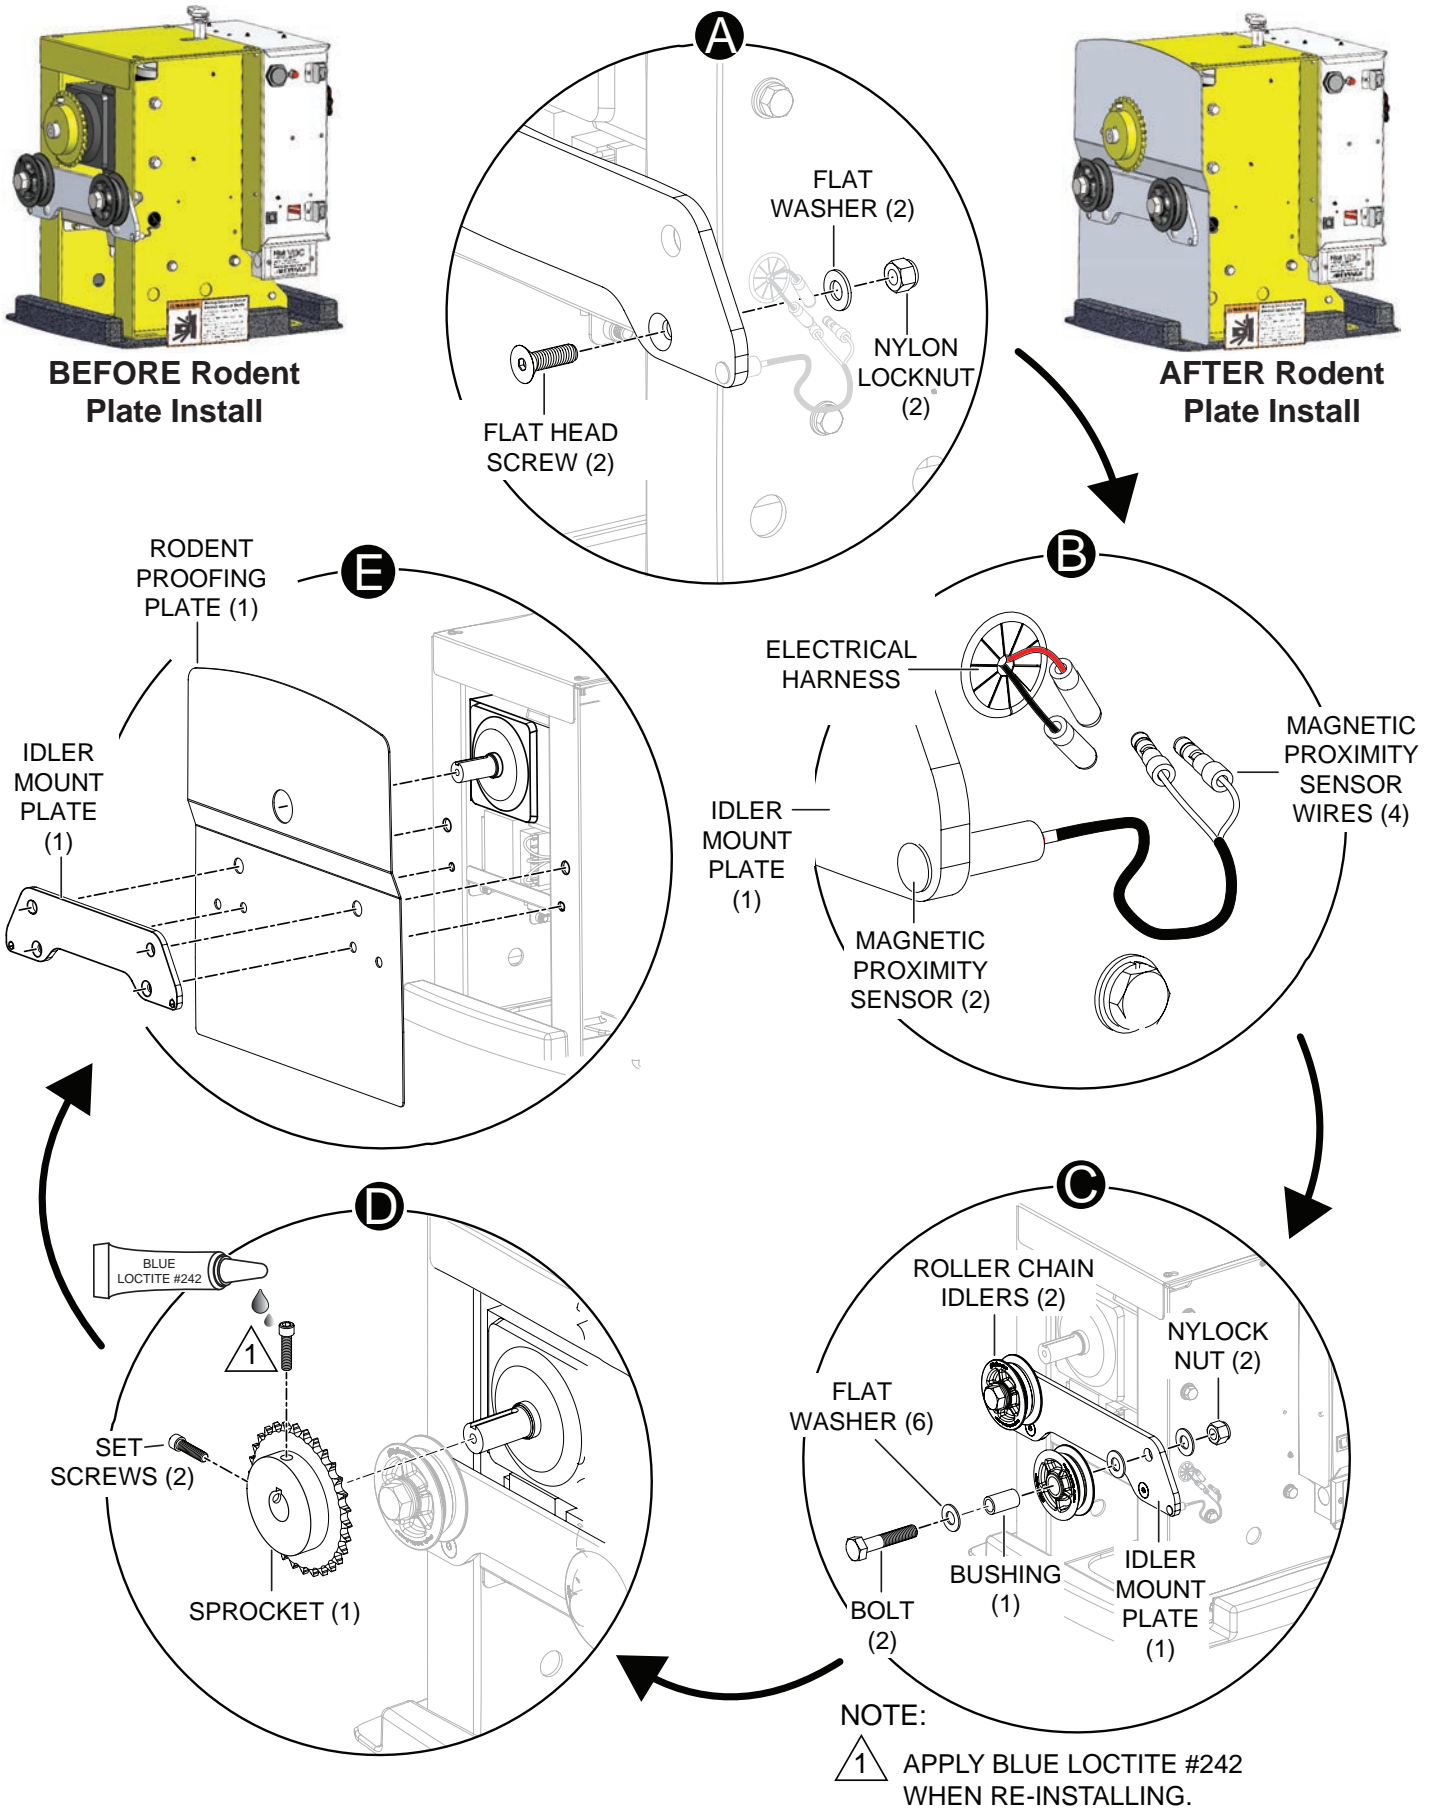

Figure 2. Rodent Block Plate Installation
1. Use a 7/32 inch allen wrench and 9/16 inch open-ended wrench to remove flat head screws (2), flat washers (2), and nylon locknuts (2) from idler mount plate. See Figure 2, A.
3. Disconnect magnetic proximity sensor wires (4) on idler mount plate (1) from main electrical harness. See Figure 2, B.
4. Use two open-ended 15/16 inch wrenches to remove roller chain idlers (2), bolts (2), flat washers (6), bushings (2), and nylock nuts (2) from idler mount plate. See Figure 2, C.
5. Use an 1/4 inch allen wrench to remove set screws (2) and sprocket (1) from gearbox shaft. See Figure 2, D.
6. Align rodent block slide plate (1) flush to SlideSmart DC™ chassis ensuring bended section avoids contact with gearbox. See Figure 2, E.